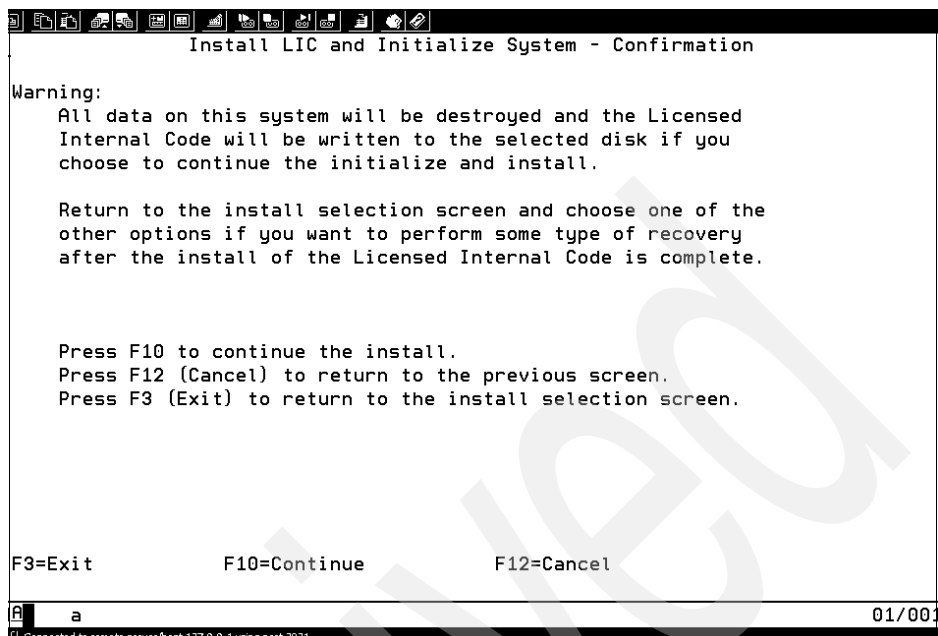

Figure 5-38 Confirm definition
8. The Confirmation screen appears as shown in Figure 5-38 on page 257. This procedure causes existing data on the disk assigned to this logical partition to be lost. Press **F10** to continue or press F12 to Cancel and return to the previous screen.